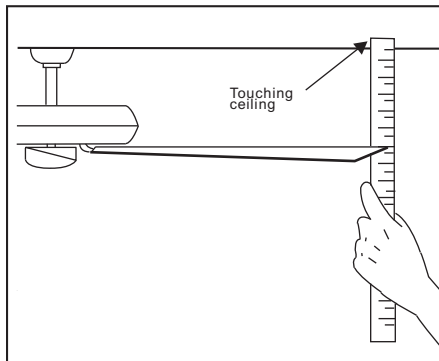

Figure 13
2. Most fan wobble problems are caused when blade levels are unequal. Check this level by selecting a point on the ceiling above the tip of one of the blades. Measure this distance as shown in Figure 13. Rotate the fan until the next blade is positioned for measurement. Repeat for each blade. The distance should be equal within 1/8". Run the fan for 10 Minutes.